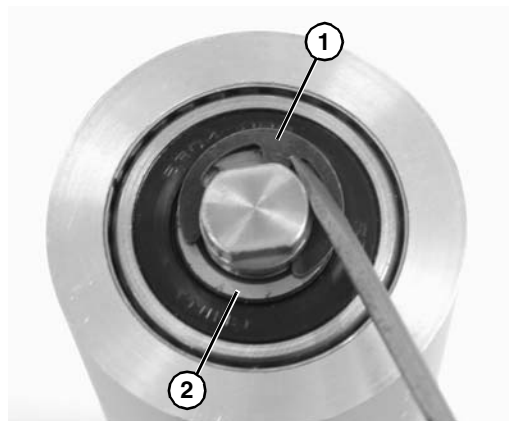

Figure 34
6. Remove the pulley shaft assembly: remove the clip ring (Figure 34, item 1) and washer (Figure 34, item 2) from one side of the pulley assembly.